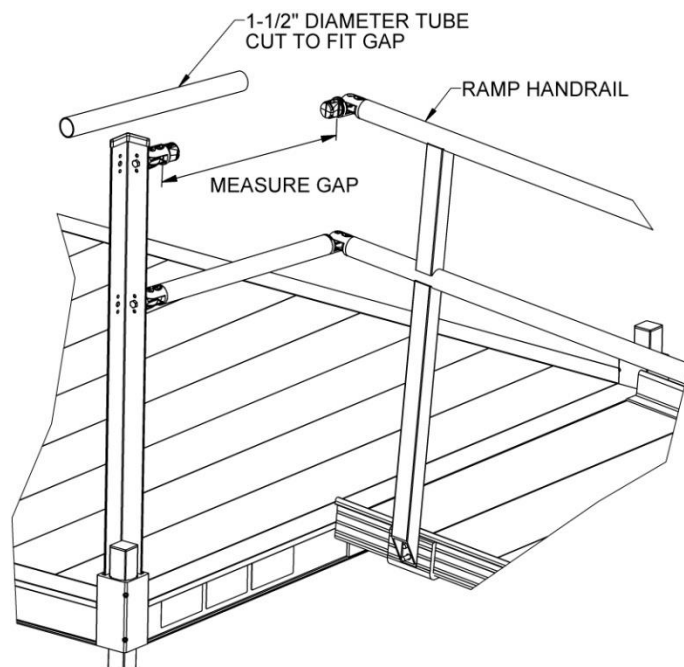

FIG. 6.10
- 6.2.6. Cut the 1 1/2" diameter round tube to the length measured (FIG. 6.10).